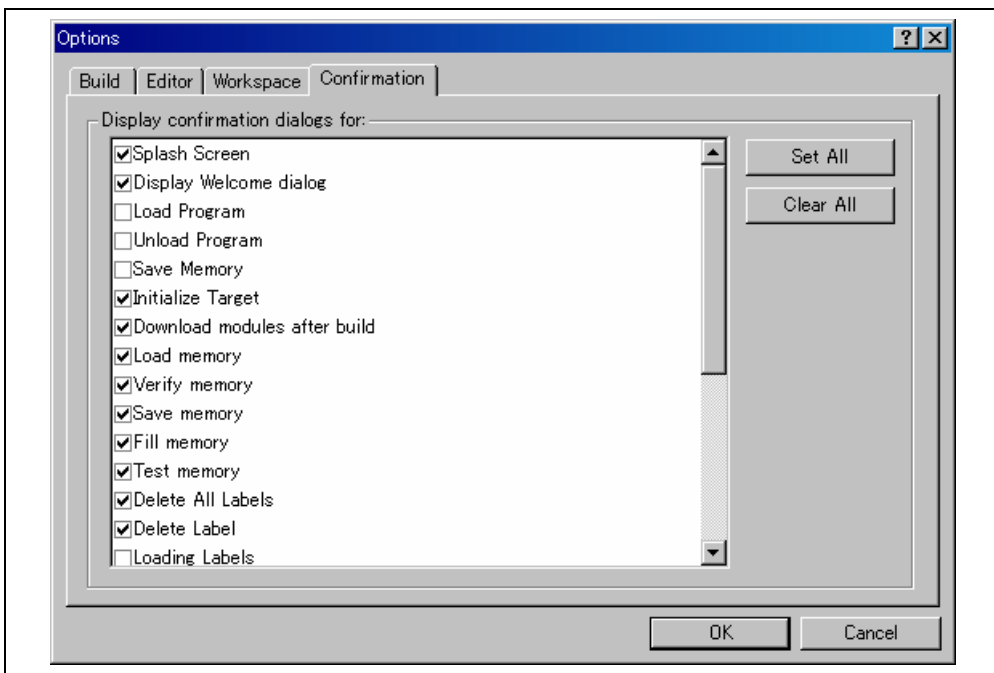

Figure 6.16: Confirmation Page for Optional Dialog Boxes
1. Select **[Tools->Options...]**. Then select the “Confirmation” tab (figure 6.16).